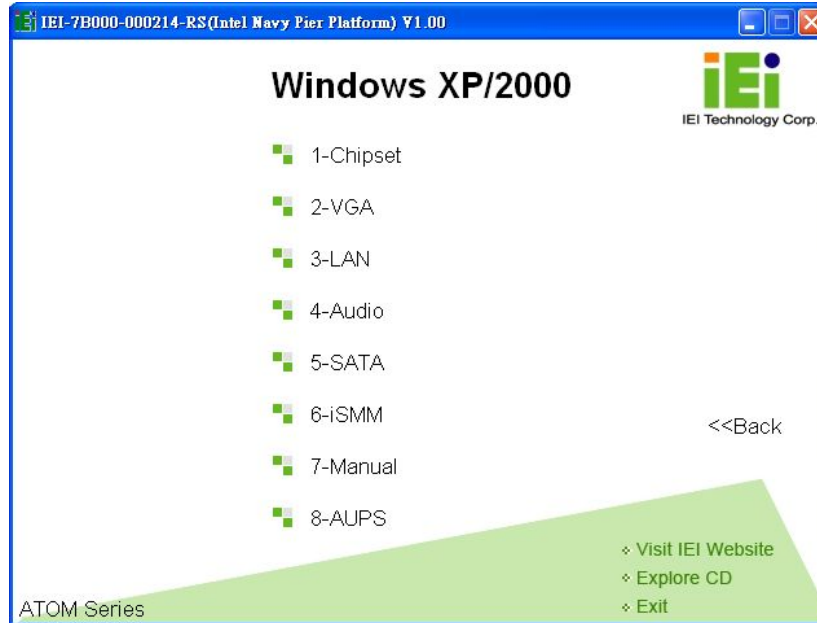

Figure 6-3: Drivers
Step 6: The list of drivers in Figure 6-3 appears.
Step 1: Access the driver list shown in Figure 6-3. (See **Section 6.2**)
- Step 1:** Access the driver list shown in Figure 6-3. (See **Section 6.2**)